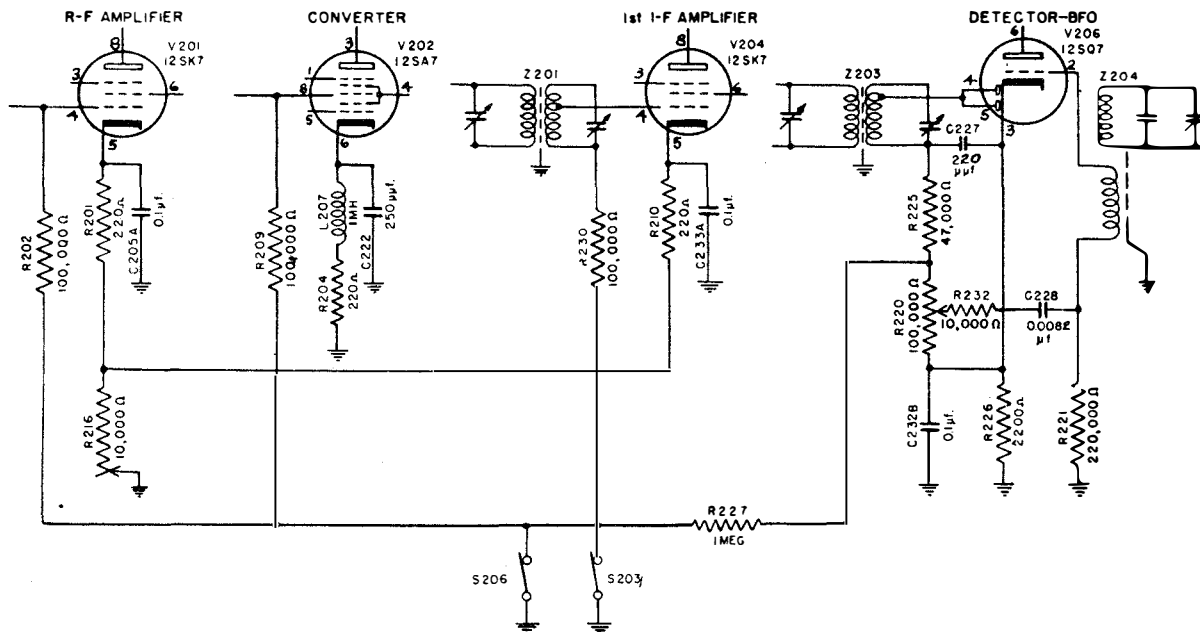

Fig. 2-23 Receiver Automatic-Volume-Control Circuit.
f. AVC CIRCUIT. (See figure 2-23.)—The AVC voltage is applied to the grids of three tubes in the receiver, the r-f amplifier V201, the converter V202, and the first i-f amplifier V204. A portion of the negative voltage that is developed across the load resistors R225, R220 and R226 of the detector is utilized to control the output of the receiver. The filter consisting of resistor R227 and capacitor C232A filters out the audio component of the voltage that is applied to the grids. A combination of series and shunt feed is employed. The r-f